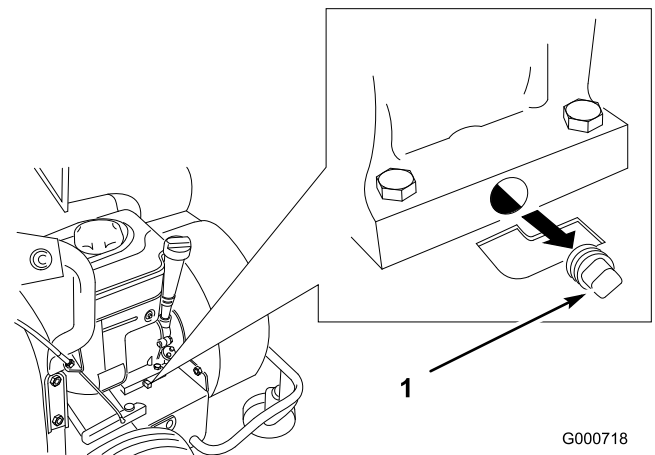

Figure 27
4. Clean the area around the drain plug (Figure 27).